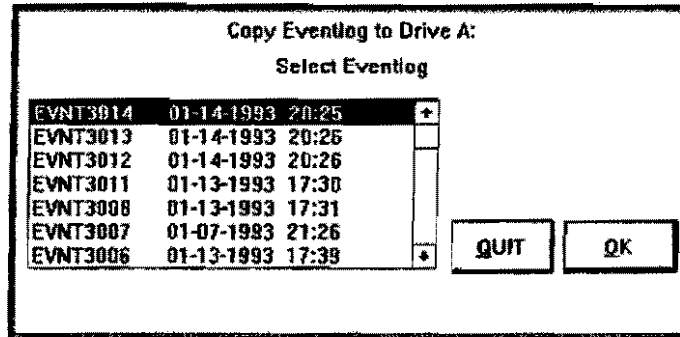

Figure 12.8 Copy Eventlog Dialog Box
1. Select **Eventlog** in the Copy menu to display the dialog box shown in Figure 12.8. The most recent of up to seven eventlog files displayed in the list is highlighted.